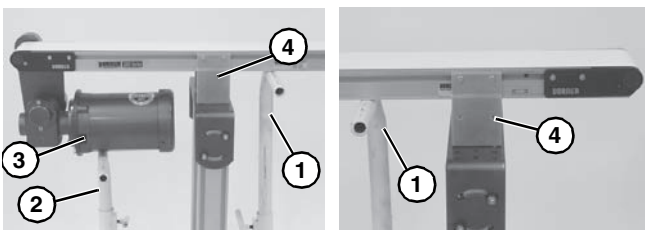
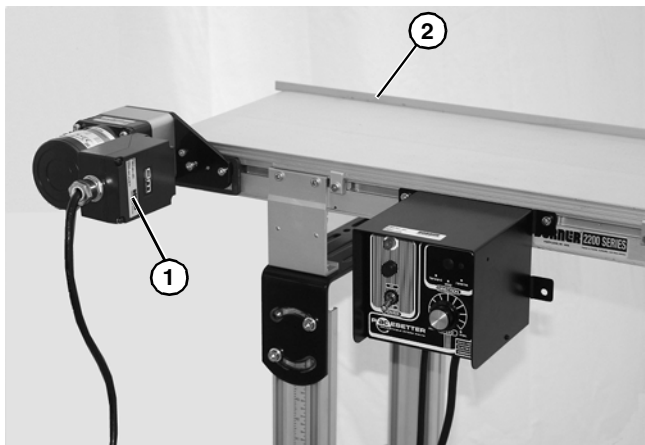

Figure 26
Figure 27
1. Place temporary support stands (Figure 26, item 1) at both ends of the conveyor. Place an additional support stand (Figure 26, item 2) under the drive motor (Figure 26, item 3), if equipped. See WARNING.
2. Remove mounting brackets (Figure 26, item 4) from one side of conveyor. (Reverse steps in “Support Stand Mounting Brackets” on page 8 or “Surface Mount Brackets” on page 9.) If equipped with heavy load drive package, remove brackets from side opposite drive (Figure 27, item 1).
3. If equipped, remove return rollers, guiding (Figure 27, item 2) and accessories from side opposite drive (Figure 27, item 1).
1. Ensure temporary support stands (Figure 26, item 1) are placed at both ends of the conveyor. Place an additional support stand under the drive motor (Figure 26, item 3), if equipped. See WARNING.